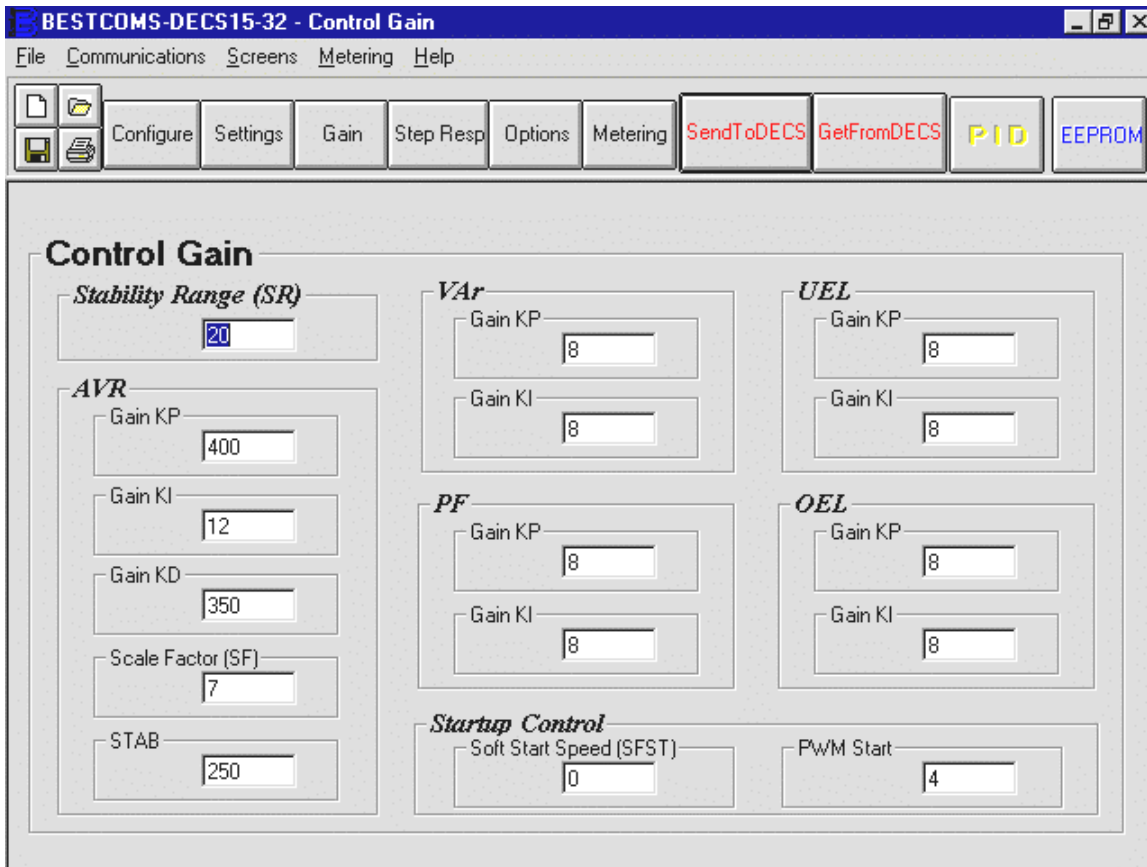

Figure 6-11. Control Gain Settings Screen
See Figure 6-11 for the Control Gain settings descriptions.
Step Response, Stability Range (SR) And AVR. The settings shown in the windows for the Stability Range and AVR are identical to those windows in the Control Gain screen display (Figure 6-11). If Stability Range 20 is functional, any changes made to the AVR windows and then sent to DECS also changes the Control Gain windows.